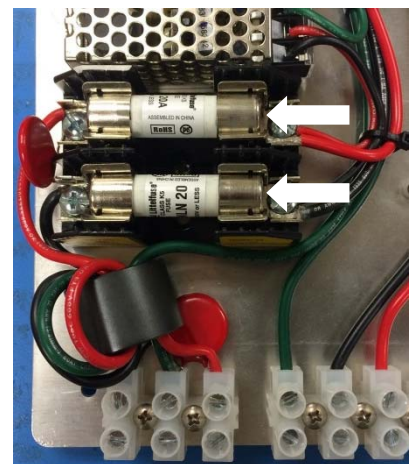

Figure 14 – Power Fuse
7. Remove and replace fuses with Littlefuse P/N 0N1N020.T. (See Figure 14).